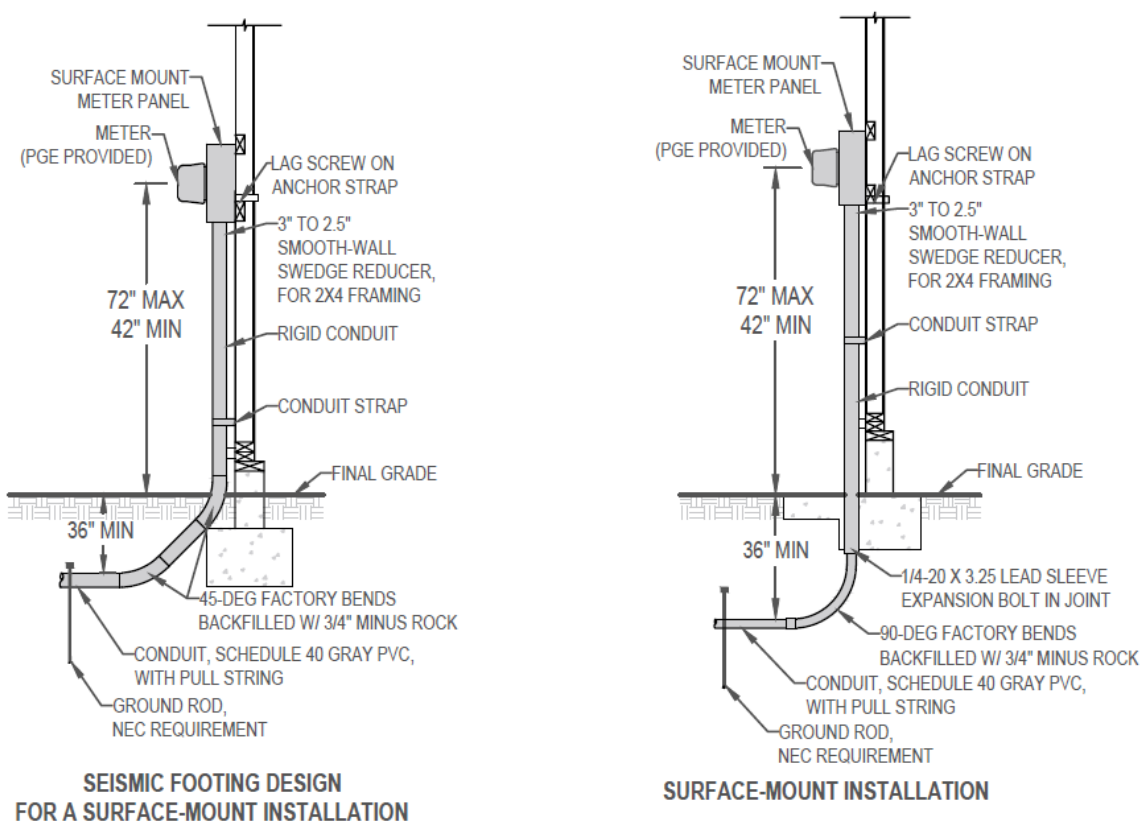

Figure 62. Surface-Mount Installation (Right) and Seismic Footing Design (Left) (STD-D-6008)
- No bends are allowed in the conduit riser between the meter socket and the underground sweep. If local codes do not allow conduit in the foundation or footing, a surface-mount meter must be installed (see Figure 62).